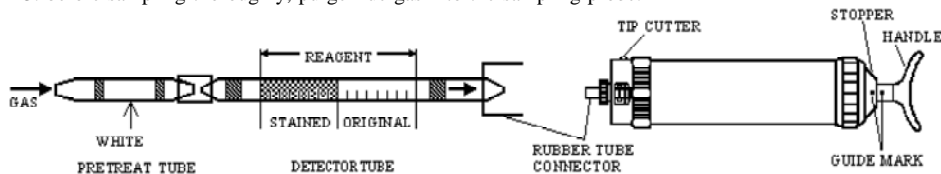

Fig.1
- ① Break both ends of detector tube and pretreat tube, and connect each end of the detector tube and pretreat tube with rubber tube connector as shown in Fig.1.
- ② Insert the detector tube into aspirating pump securely as shown in Fig.1 (Arrow mark shall point to the pump.)
- ③ Align the guide marks on the shaft and stopper of the aspirating pump.
- ④ Pull the pump handle at full stroke until it locks and wait for 1 minute or until the completion of sampling is confirmed with the flow indicator of the pump (See descriptions about the flow indicator in the instructions of the pump).